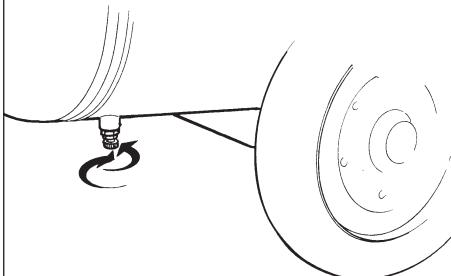

fig. 2
- check that the condensation outflow tap under the tank is closed (*fig. 2*);
■ Let the tank circuit pressure out by opening the condensation outflow tap before dismantling the pneumatic circuit (fig. 2). Unscrew carefully, so as to let out the air slowly. Watch the manometer to make sure that there is no pressure in the air circuit.